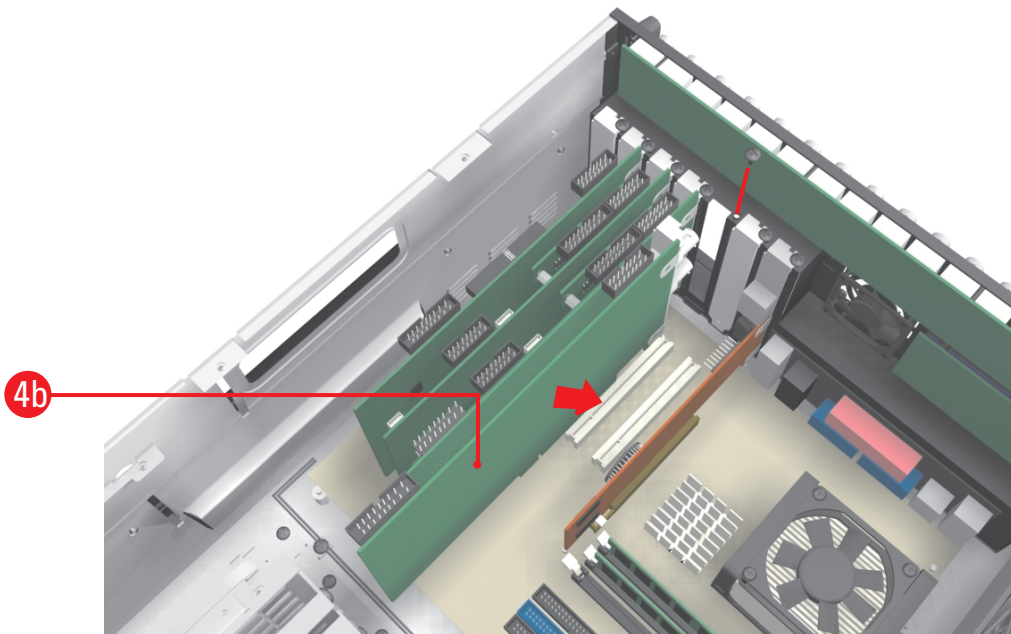

Figure 11. Inserting the DX8000-MUX16 Card into PCI Slot 2
- b. Insert the DX8000-MUX16 card in the PCI slot. Refer to Figure 11.